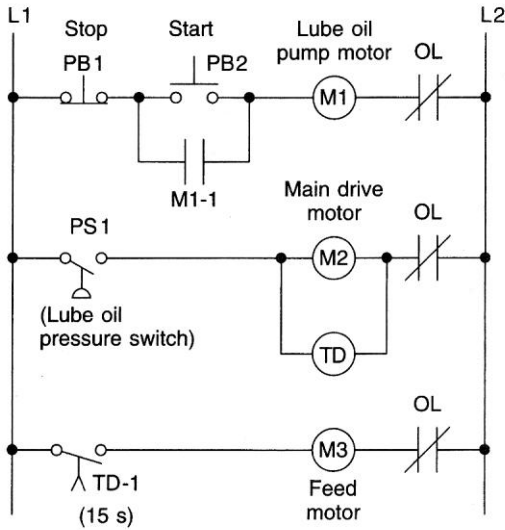

Figure 7-21 Hardwired sequence control circuit for assignment 5.
5) Prepare an I/O connection diagram and ladder logic program to execute the hardwired automatic sequential control system shown in Figure 7-21. Enter the program into the PLC, and prove its operation.